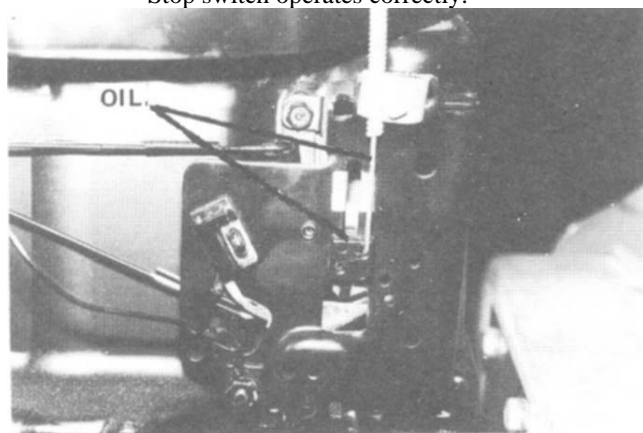

Fig. 9
1. Loosen outer cable under clamp screw (D) on engine; See Fig. 9.
The carburettor has been factory set and should only require occasional fine tuning. See Figs 9 and 10.
- Throttle control cable fig.9